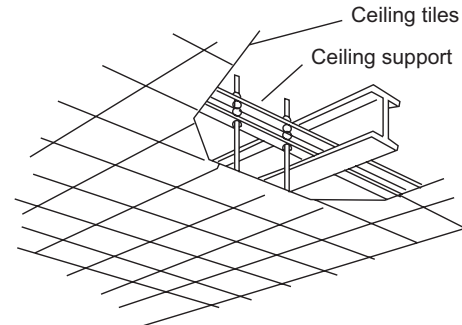

Fig. 2-114
- Use existing ceiling supports or construct a suitable support as shown in Fig. 2-114.